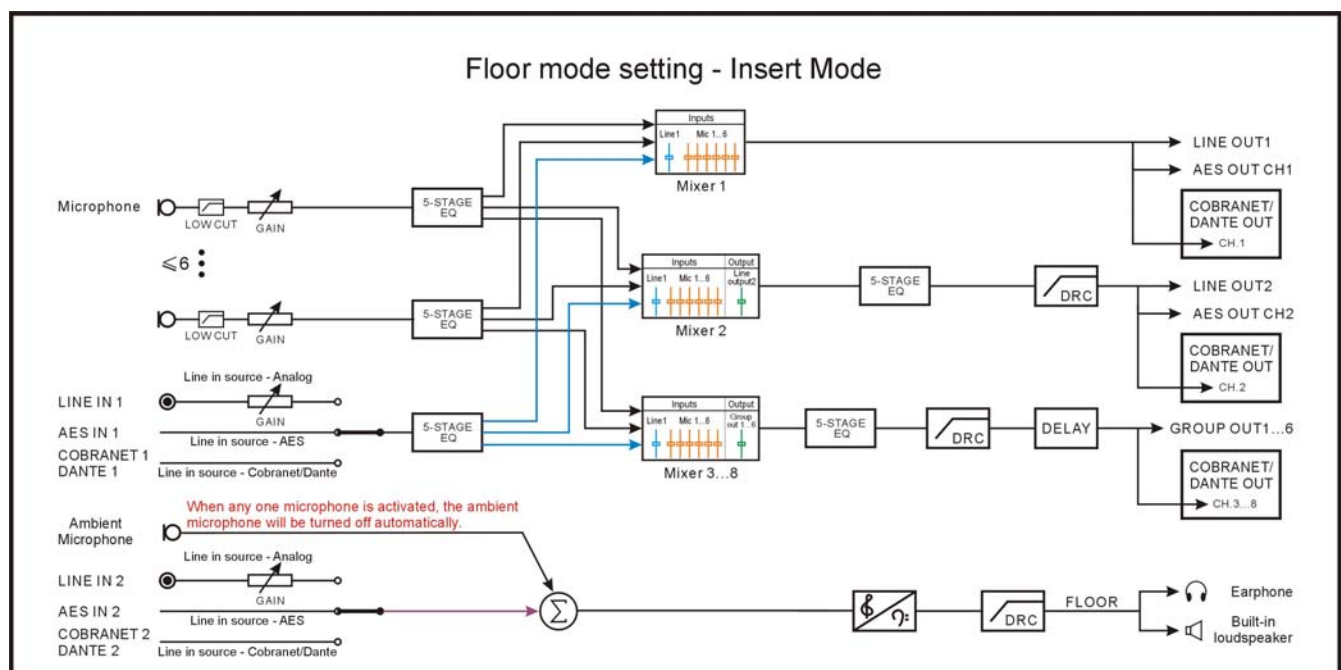

Figure 2.1.11 Floor mode setting – Insert Mode
- **Insert Mode:** the signal on LineIn2 of the CMU is used as floor signal, see figure 2.1.11. LineIn2 of the CMU is used to add signal from external audio device; and you can connect an external audio mixer between LineIn2 and LineOut;